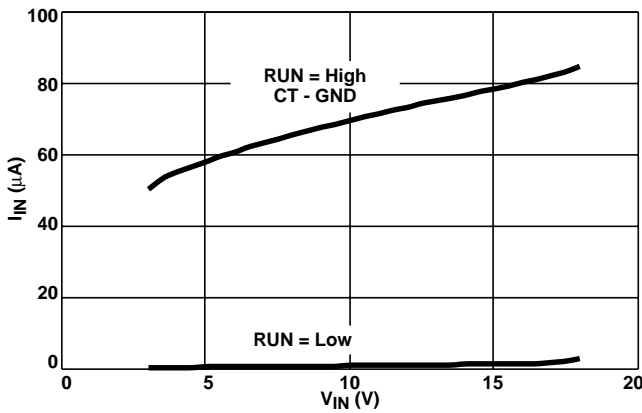

FIGURE 12. BIAS POWER CHARACTERISTICS
The converter efficiency and power dissipation at light load is mainly a function of the bias supplied to the HIP5020. Figure 12 shows the input current as a function of the input voltage for the two states of the RUN signal. I_{IN} is summation of both the current into the VIN and VINP pins. The curve for I_{IN} with the RUN signal High does not include the gate drive power.
- 2) Add the product of the voltage and current from the RUN = High curve in Figure 12.
- 4) Add the product of the voltage and current from the RUN = Low curve in Figure 12.